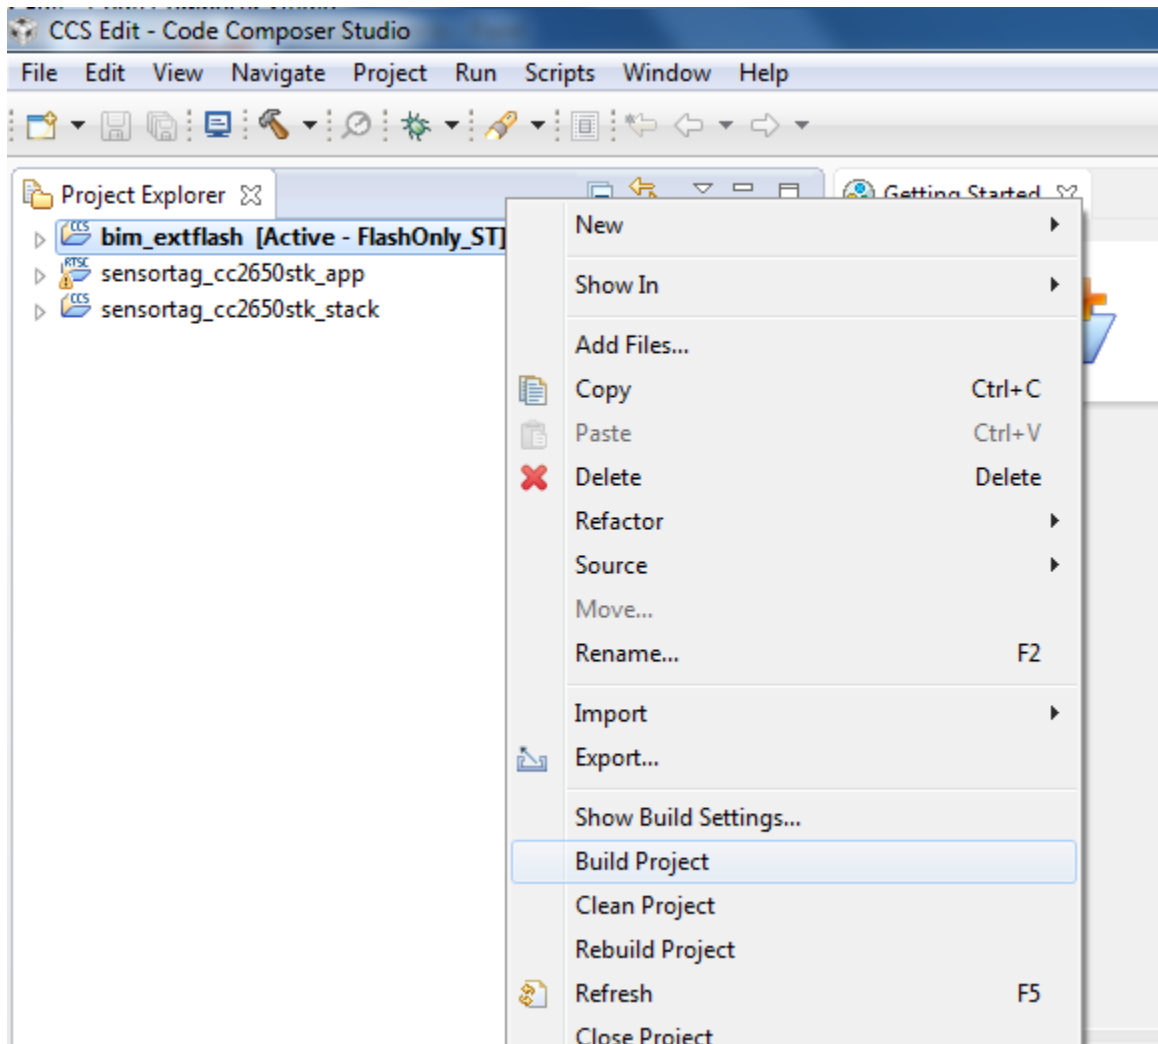

Figure 33, Right Click - Build Project.
- a. Right Click the bim\_extflash project in the Project Explorer (Figure 33).